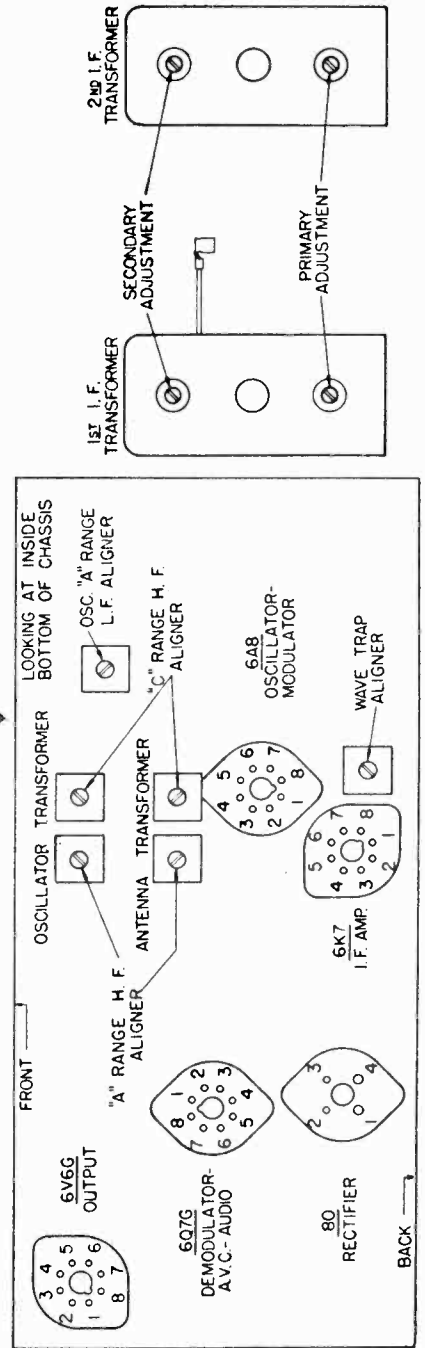

Fig. 1. Terminal Layout for Voltage Measurement Chart and Location of the Various Aligning Capacitors.
- Now, noting from Figure 1, the aligning capacitors for the first and second I. F. transformers, align the secondary of second I. F. transformer.
The various values of voltages listed in the following table are obtained by measuring between the various tube socket contacts and the chassis base, with the tubes in their respective sockets. The receiver is, therefore, in operation when the measurements are made. Figure 1, shows the terminal layout of the sockets with the proper terminal numbers.
In making any alignment adjustments, always adjust the test oscillator's output voltage to the minimum value where a good alignment may still be obtained. Never attempt to make any alignment adjustments using a strong signal. Before proceeding with the alignment of any circuits in these receivers be sure that the "Normal Tone" control knob is set for maximum treble response (position where knob is turned to its minimum counterclockwise position, slightly clockwise to position where set turns "on"). Figure 1, shows the location of all the aligning capacitors in these receivers.